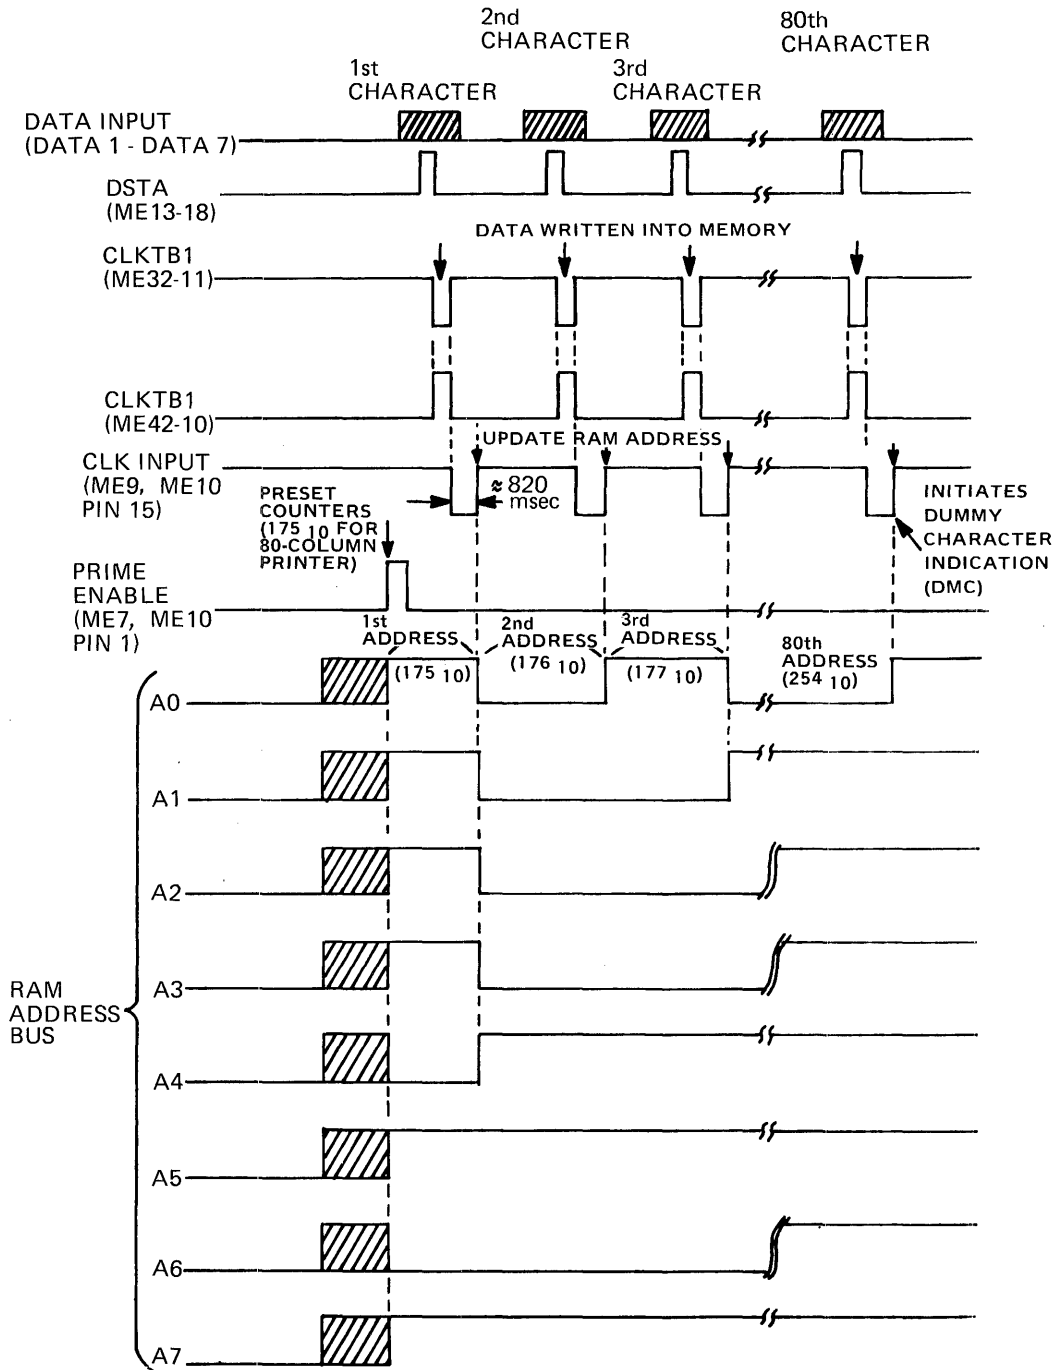

Figure 4-4. TIMING WHEN STORING DATA
As shown in Figure 4-4, a prime condition will cause a positive pulse to appear at the preset enable (PE) input of up-counters ME9 and ME10. The leading edge of this signal presets the counters to the load conditions present on the jam inputs (pins 3, 4, 12 and 13) of each counter. These conditions are reflected on the RAM address bus lines A0 through A7. There are two load conditions:
Assume that a full line of data is being received and the board is configured for an 80-column/line printer (See Figure 4-4). The data strobe (DSTA) received with the first character in a line causes ME32-11 and ME42-10 to generate  $\overline{\text{CLKTB1}}$  and CLKTB1. During  $\overline{\text{CLKTB1}}$  the Random Access Memory (RAM) elements write the data for the first character into the preset RAM address (decimal 175 for an 80-column printer).